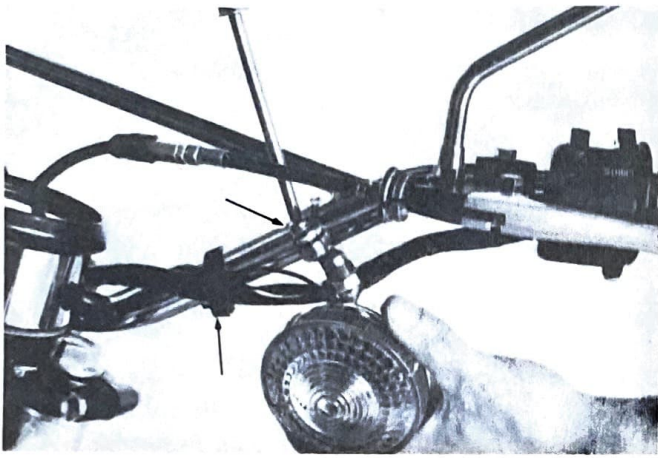

Fig. 28
19. a. Install the front flasher lamps to the bottom part of each tension bar attached to the handlebar. (Fig. 28)